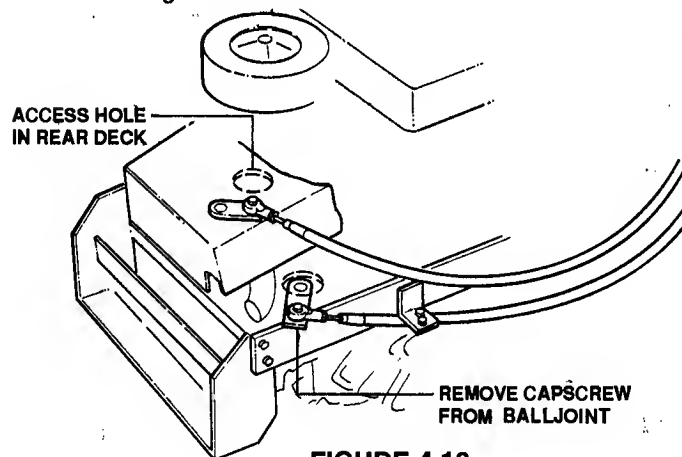

FIGURE 4.10
1. Remove capscrew from end of ball joint. See Figure 4.10.